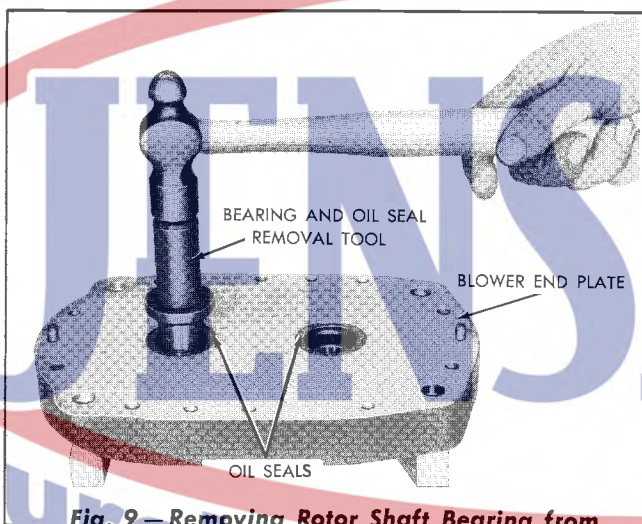

Fig. 9 — Removing Rotor Shaft Bearing from End Plate
8. Remove the rotor shaft bearings from the blower end plates by using a bearing remover tool as shown in Fig. 9. Insert the bearing remover tool through the oil seal from the inner face of the blower end plate, so that the pilot of the tool enters the bore in the inner race of the bearing and the shoulder of the tool rests against the bearing inner race. Support the end plate on blocks about two (2) inches high and drive the bearing out of the end plate. Follow the
9. Remove the rotor shaft oil seals from the blower end plates. The oil seals may be removed from the end plates at the same time that the bearings were removed by continuing to drive down on the remover tool shown in Fig. 9; the collar of the remover tool will contact the oil seal and drive it out of the end plate.